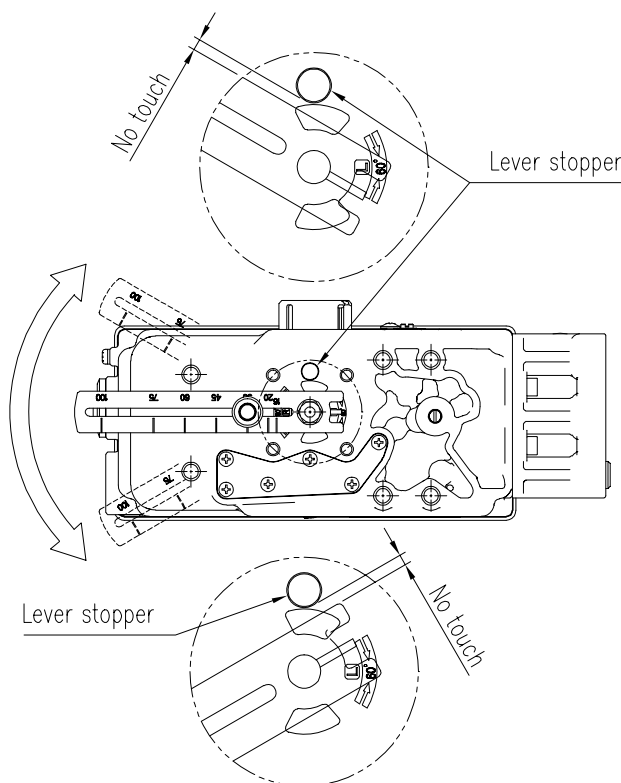

Fig. 3-8: Feedback lever should not touch lever stopper on 0 % to 100 % valve stroke.
- 8) After installing the positioner, operate the valve from 0 % to 100 % stroke by using direct air to the actuator. On both 0 % and 100 %, the feedback lever should not touch the lever stopper, which is located on the backside of the positioner. If the feedback lever touches the stopper, the adapter holder should be moved or the adapter of feedback lever should be moved further away from the main shaft of the positioner. Refer to Fig 3-8.